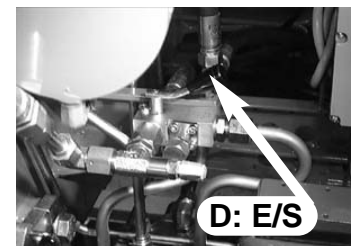

fig. 20b
- Position lever **D** of oil diverter crane-outriggers (☞ - E/S) on E/S. Fig. 20b
- Position lever **D** of oil diverter crane-outriggers ( - **E/S**) on **E/S**. Fig. 20b